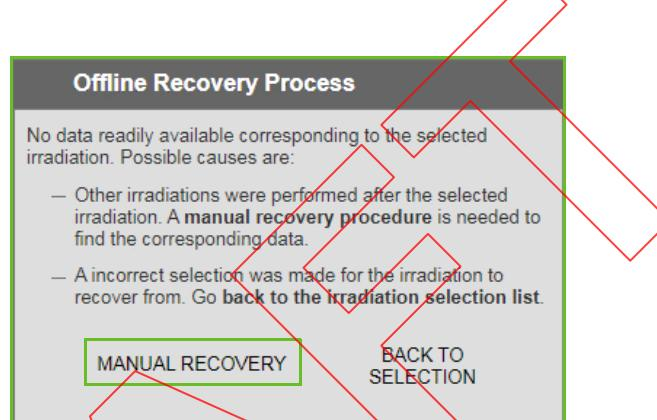

Figure 39-14. Recovery after termination by adaPTdeliver - Manual data recovery message (offline)
1. When the automatic recovery procedure fails, click **Manual Recovery** in the popup message (Figure 39-14).